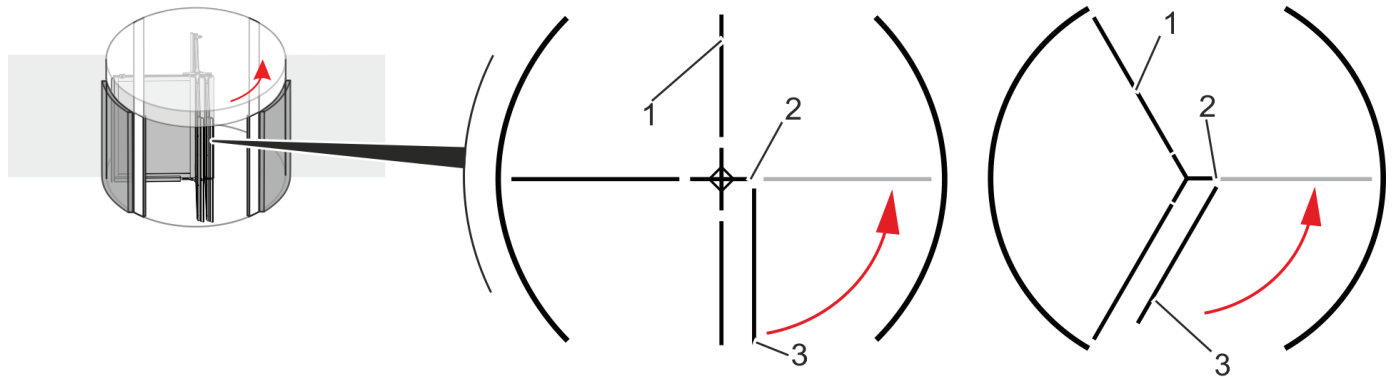

Fig. 12 Releasing the door wing (four and three wings)
Have one person hold the door wing at the entrance (Fig. 12/1).
2. Move the foldable door wing (Fig. 12/3) in the direction indicated by the arrow, as shown in Fig. 12.